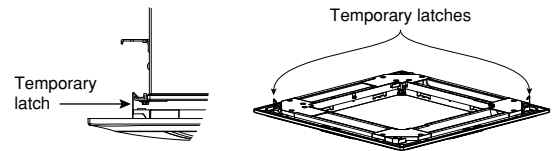

Fig. 6-17
(1) Hang the temporary latches on the inside of the ceiling panel to the receptacle on the unit to temporarily attach the ceiling panel in place. (Fig. 6-17)